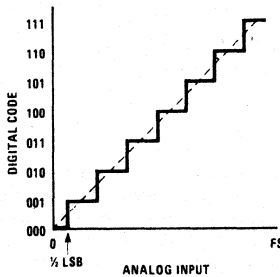
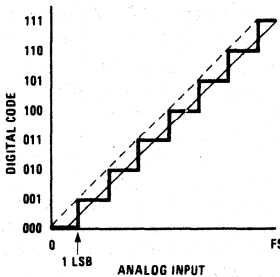

FIGURE 2. ADC Transfer Curve,  $\frac{1}{2}$  LSB Offset at Zero
FIGURE 3. ADC Transfer Curve, No Offset
**Quantizing Error** is the maximum deviation from a straight line transfer function of a perfect ADC. As, by its very nature, an ADC quantizes the analog input into a finite number of output codes, only an infinite resolution ADC would exhibit zero quantizing error. A perfect ADC, suitably offset  $\frac{1}{2}$  LSB at zero scale as shown in figure 2, exhibits only  $\pm\frac{1}{2}$  LSB maximum output error. If not offset, the error will be  $\pm 1$  LSB as shown in figure 3. For example, a perfect 12-bit ADC will show a  $\pm\frac{1}{2}$  LSB error of  $\pm 0.0122\%$  while the quantizing error of an 8-bit ADC is  $\pm\frac{1}{2}$  part in  $2^8$  or  $\pm 0.195\%$  of full scale. Quantizing error is not strictly applicable to a DAC; the equivalent effect is more properly a resolution error.
cation of  $\pm\frac{1}{2}$  LSB linearity implies error in addition to the inherent  $\pm\frac{1}{2}$  LSB quantizing or resolution error. In reference to figure 2, showing no errors other than quantizing error, a linearity error allows for one or more of the steps being greater or less than the ideal shown.